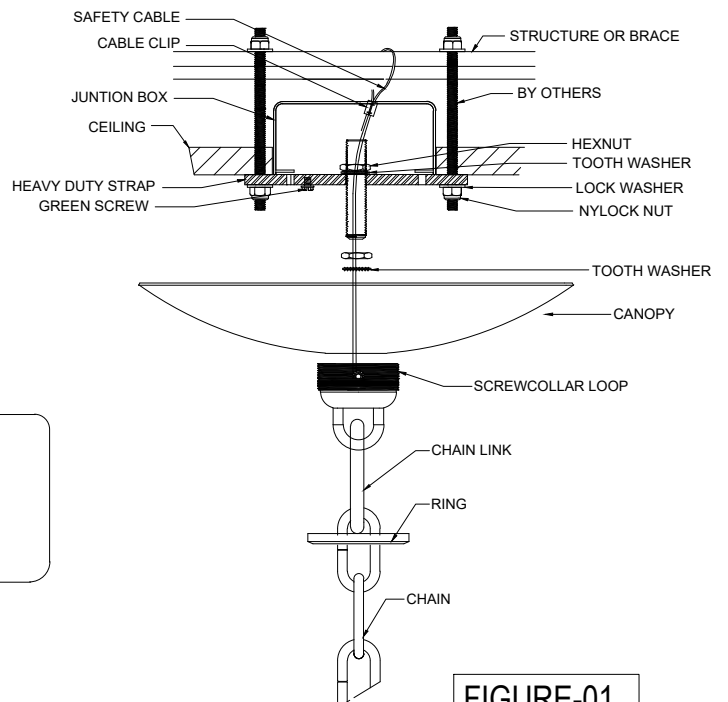

FIGURE-01
1. Attach the heavy duty strap unto the junction box. Then attach the SAFETY CABLE to the building structure or brace. (The green screw should face the floor). (See FIGURE-01.)